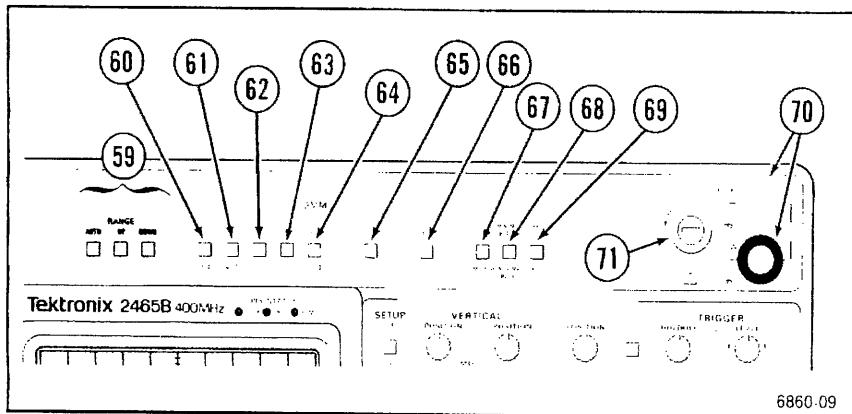

Figure 5-8. DMM controls and connectors.
All DMM controls are momentary push buttons. The buttons alternately select and deselect functions. Refer to Figure 5-8 for the location of items 59 through 71.
- (59) RANGE Buttons** Select full-scale ranges for measurements.
- (60) DC V/DC A** Turns the dc volts or dc amps function on or off.
- (61) AC V/AC A** Selects or cancels ac rms volts or ac rms amps.
- (62) **dBV/dBm** Selects or cancels dBV or dBm.